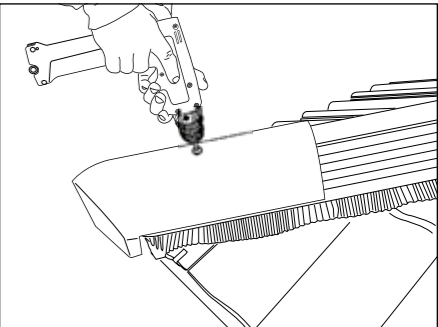

Fig. 10 – Fixing Block End Hip tile
- 9 Fit a purpose designed Block End Hip tile tight against eaves tiles and trim the Block End if required. Fix Block End Hip tile through HipFast Hip Support Tray to hip batten using 75mm x 4.8mm screw and sealing washer provided. Tighten securely to ensure a firm seal (Fig. 10). For Maxima, Melodie or Lincoln clay interlocking tiles, see full Sitework Guide.